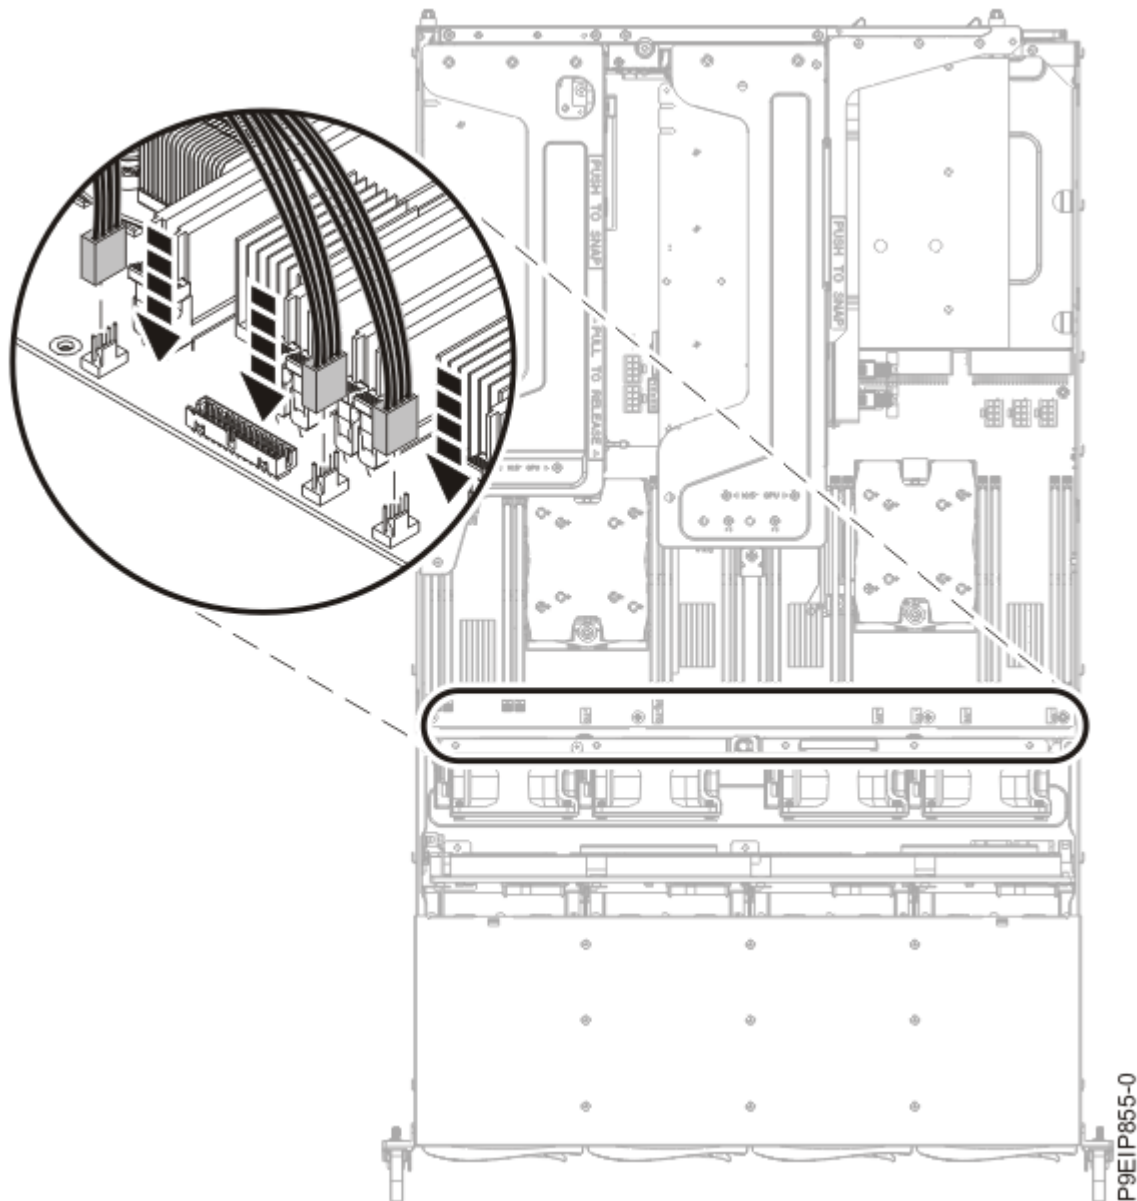

Figure 52. Connecting the fan cables
21. Connect the four fan power cables to the system backplane as shown in Figure 52 on page 55. Do not pull on the wires.